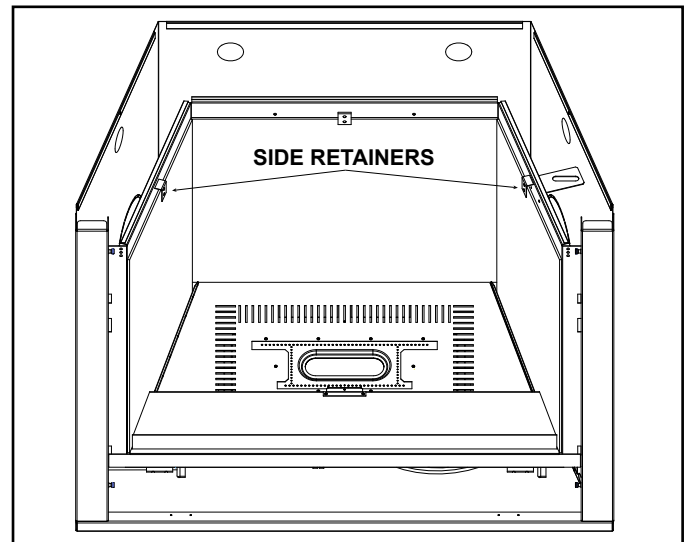

Figure 11.5 Install Side Retainers
3. Figure 11.5 shows the glass panels installed properly.